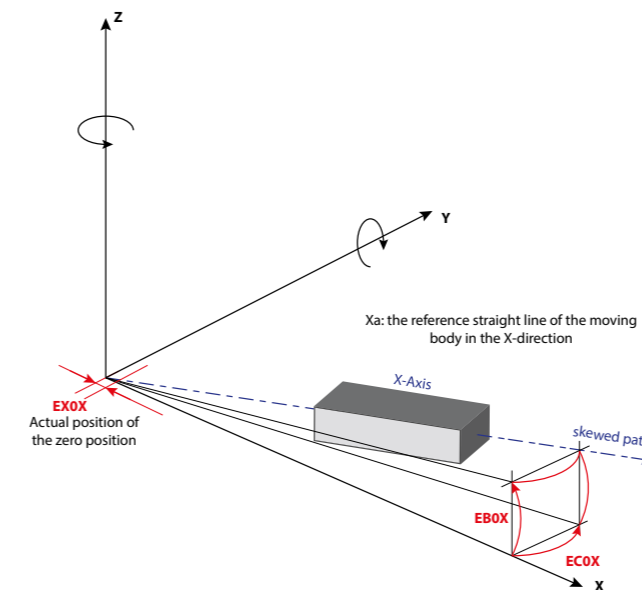

Fig.1 Location errors for a linear axis (X-axis)
- The figure 1 shows the location errors for a X-axis where